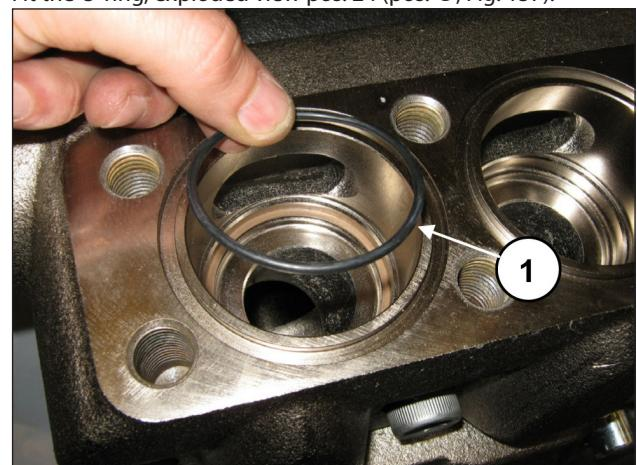

Fig. 157
Fit the O-ring, exploded view pos. 24 (pos. ①, Fig. 157).